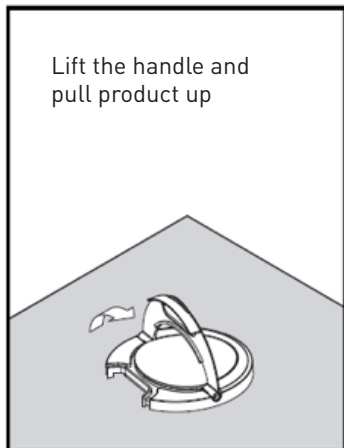

Fig 3a
- To raise the product, gently lift the handle on the top cover. Raise until it clicks, this means its locked in position (see Fig 3a)